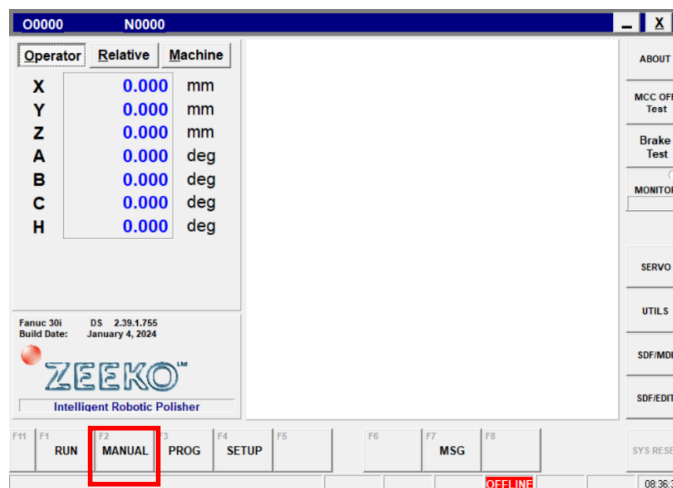
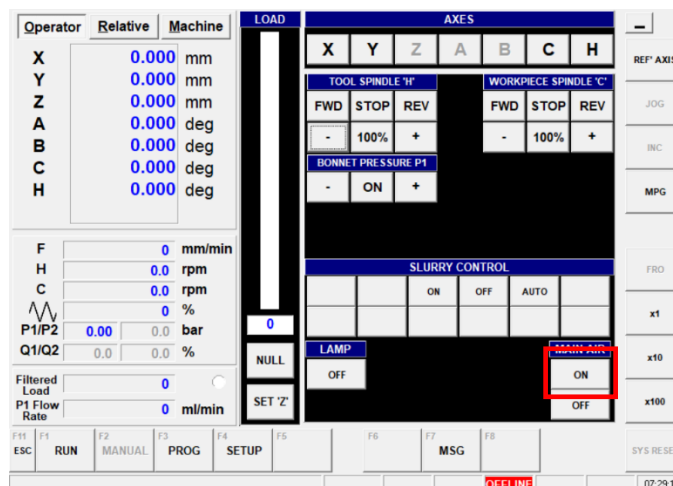

Figure 18 - Manual button on main screen
Figure 19 - Compressed Air ON
- Switching on the compressed air (Main Air) supply to the machine, is activated from the “Manual” menu in the “Zeeko GUI”. This is done by pressing the “Manual” button from the main screen and then pressing the “ON” button for the main air. See (Figure 18 - Manual button on main screen) and see (Figure 19 - Compressed Air ON).